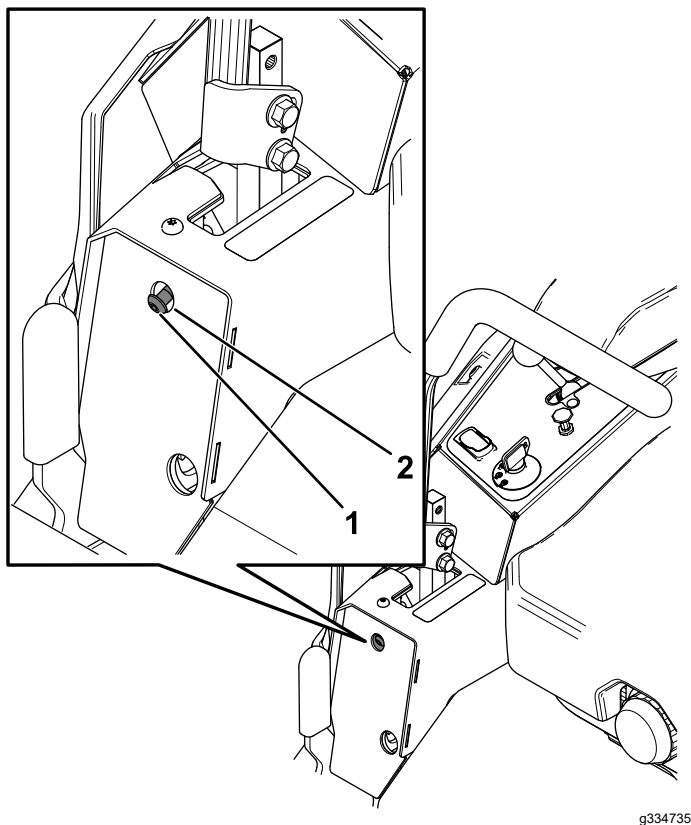

Figure 55
6. If the machine tracks to the right, insert a 3/16 inch hex wrench through the access hole in the left, front cover panel and rotate the tracking screw clockwise or counterclockwise to adjust the travel of the lever (Figure 55).
7. If the machine tracks to the left, insert a 3/16 inch hex wrench through the access hole in the right, front cover panel and rotate the tracking screw clockwise or counterclockwise to adjust the travel of the lever (Figure 55).